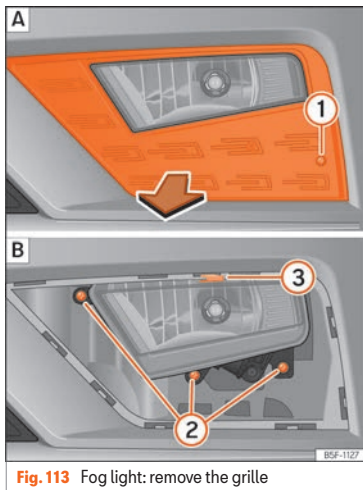
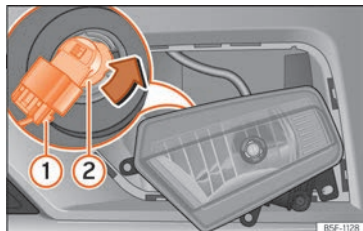

Fig. 113 Fog light: remove the grille
Fig. 114 Fog light: detach the bulb holder
1. Remove the screw »» Fig. 113 ① [A] from the fog light grille using a screwdriver and extract the grille.
2. Remove the 3 screws »» Fig. 113 ② [B].
3. Remove the metal clip situated on the upper part of the fog light by pulling away from the vehicle ③ [B] and extract the fog light.
4. Remove the connector »» Fig. 114 ① from the bulb.
5. Turn the bulb holder ② anti-clockwise and pull.